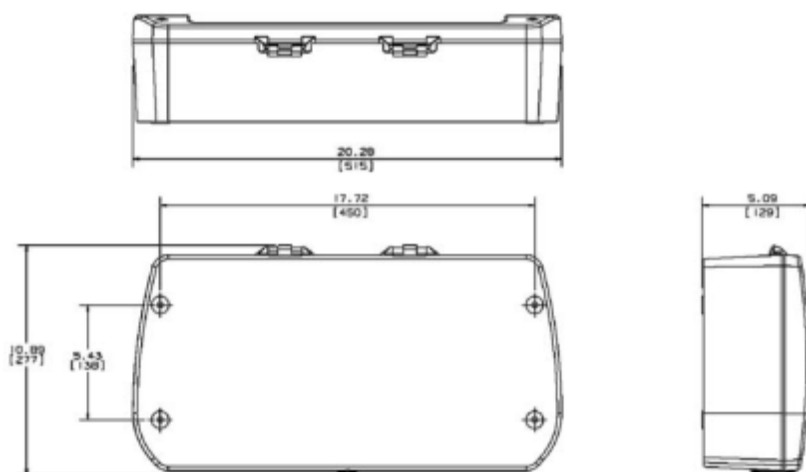

Figure 6 Mounting Drawing [dimensions in inches (mm)]
1. Mark holes for the four fixing screws as shown in Figure 6.